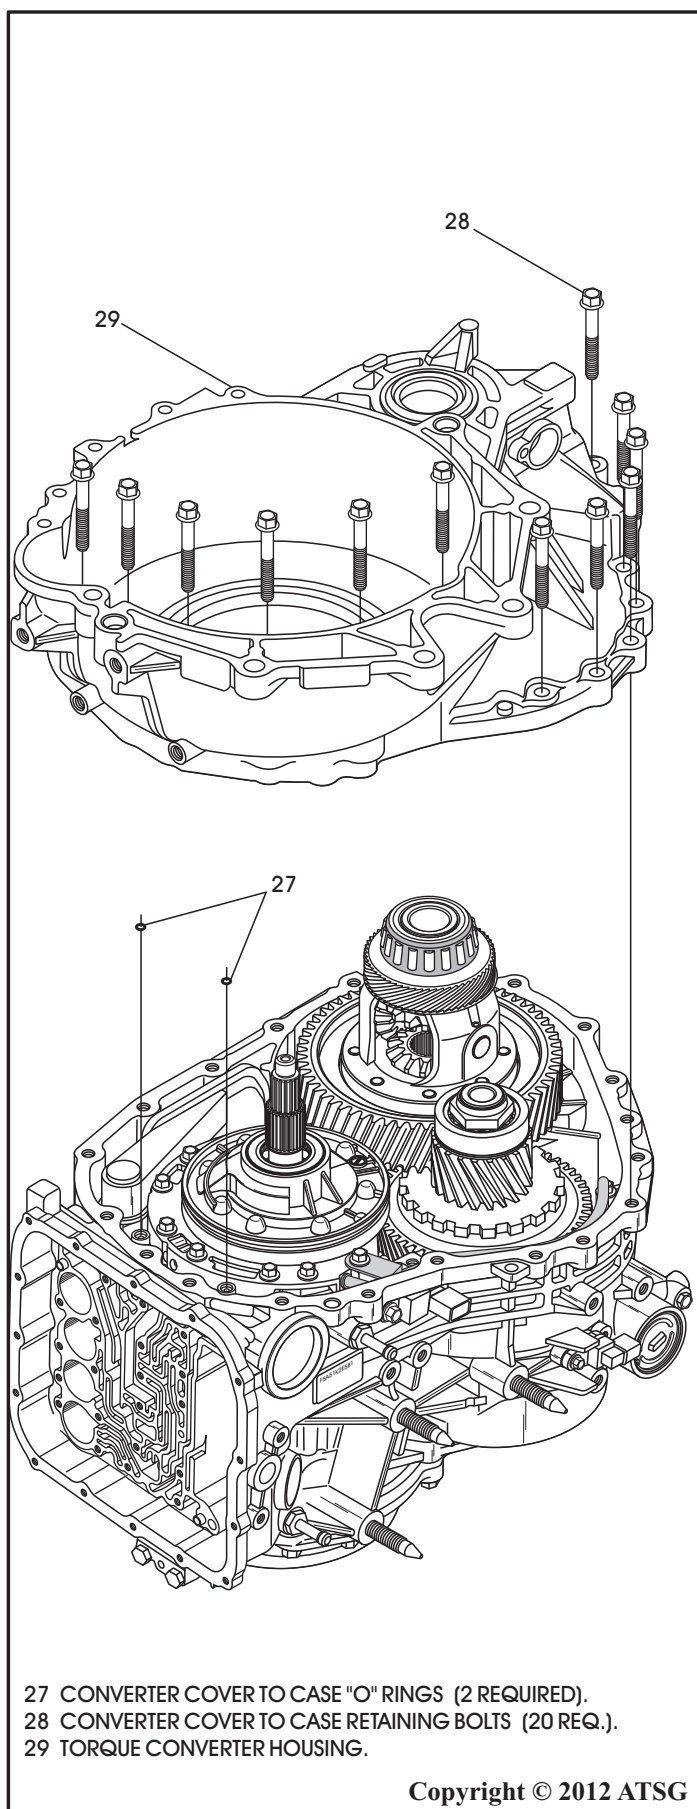

Figure 64
20. Rotate the case on the work bench so that the converter housing is facing up, as shown in Figure 64.
22. Remove and discard the two small "O" rings between the converter housing and the case, as shown in Figure 64.